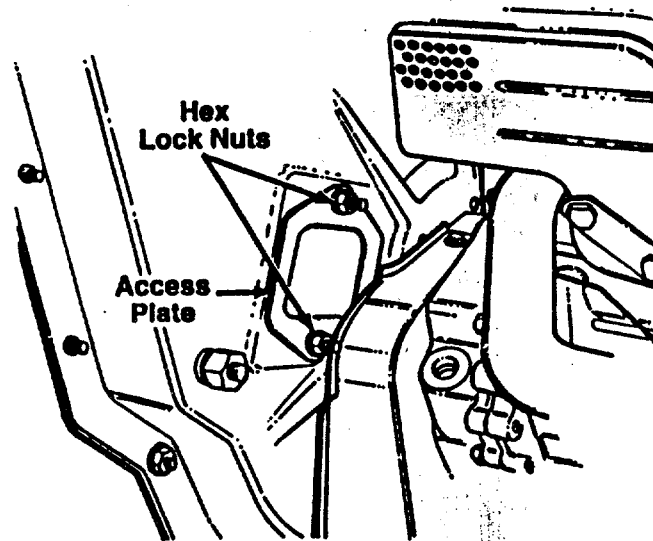

Fig. 4
5. Remove the access plate by removing the two hex lock nuts that secure it to the housing. See Figure 4.